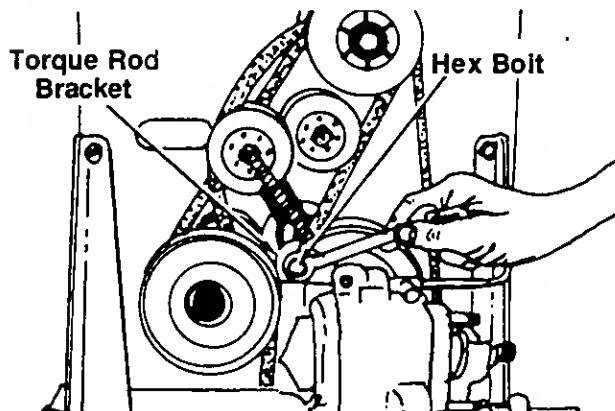

FIGURE 27.
4. Remove the hex bolt, nut and lock washer at the torque rod bracket and transaxle. See figure 27.
5. Remove the hex bolt which holds the torque rod bracket to the torque rod, and remove bracket. See figure 27.